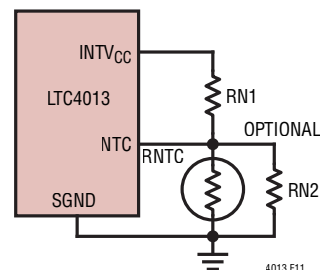

Figure 11. NTC Configuration for Temperature Compensation
As mentioned the LTC4013 uses a charge voltage method that can be used to shift the charge voltage as a function of temperature. In the simplest view the voltage ( $V_{NTC} - V_{INTVCC}/2$ ) is multiplied by 0.21 and added to the charge voltage. Figure 11 shows how to configure the pin and Table 10 shows some common temperature coefficient (TC) and associated resistor settings using 10k,  $B = 3380$  NTC resistor. Note TC is with respect to the charge voltage at FB which is roughly 1 cell of a lead acid battery.